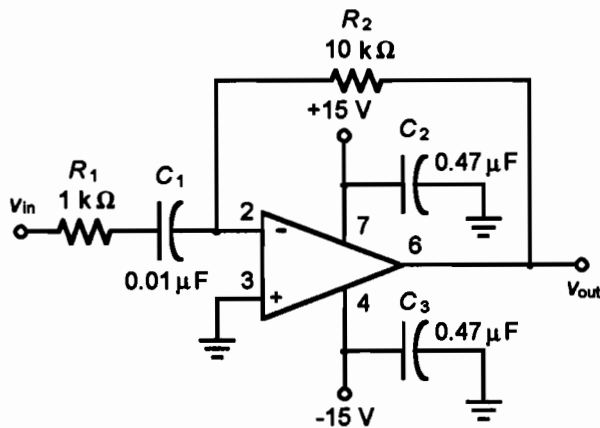

Figure 54.1
1. Construct the circuit in Figure 54.1.